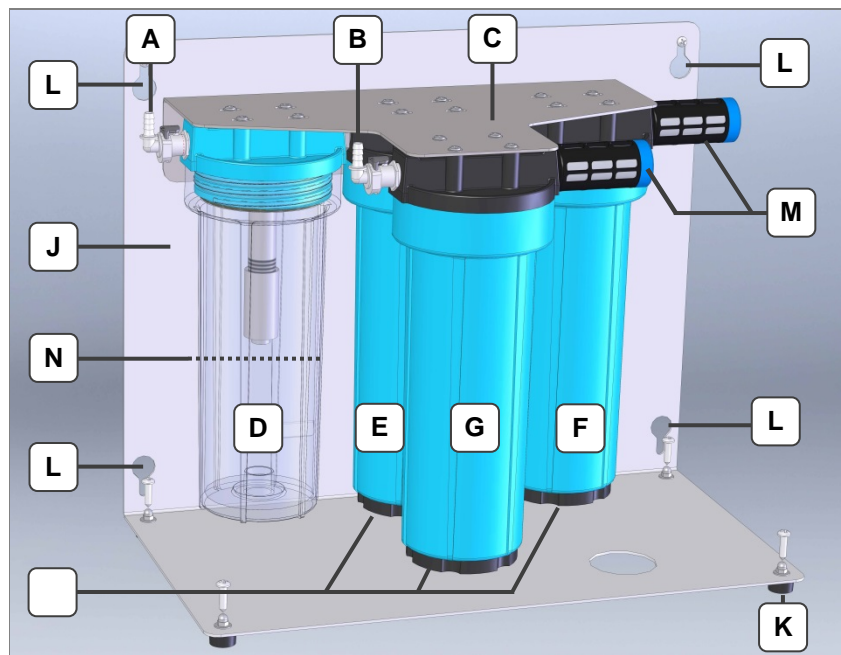

Fig. 14.1.1 Upright activated carbon unit
**Interval** After view, at the latest if the filling level of the separated solvent has risen to approx. 20 mm below the filter in the condensate separator (*Fig. 14.1.1.N*).
**Procedure** Remove the retaining plate (C) with the condensate separator (D) and the activated carbon cartridges (E / F / G). In the case of wall mounting, the condensate separator can be unscrewed while the retaining bracket is attached.
- Detach the retaining plate (C) from the base plate (J).
- Open the screw plugs (*Fig. 14.1.1.H*) of the activated carbon cartridges one after the other.